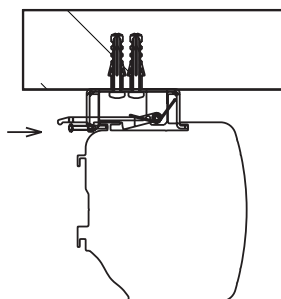

Figure 7
3. Finally tighten the safety screw of the mounting bracket. This prevents inadvertent release of the mounting bracket. (see Fig. 7)